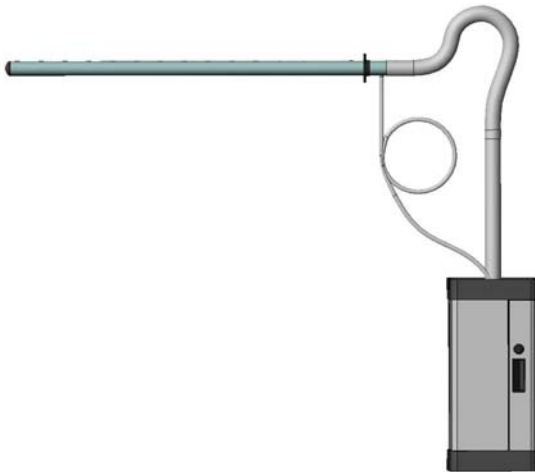
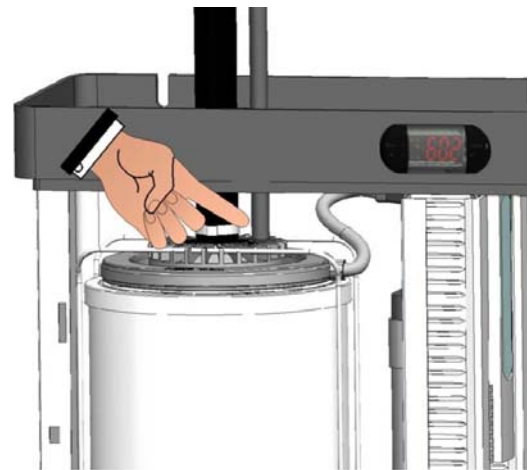

Fig.44
Fig. 45
2. If the distributor is positioned higher than the humidifier and the steam tube generates a siphon (e.g. Fig. 44), the condensate recovery must be installed, directly discharging in appropriate cylinder sleeve of the humidifier (Fig. 45) or in a water collection well. The condensate recovery is made connecting the 10 mm sleeve of the distributor to the PEGO UMITUBODN10 tube for this type of application. In the path of the condensate recovery tube from distributor to humidifier or from distributor to well, a siphon must be made with full turn of 200 mm minimum diameter; the siphon must be charged with water prior to installation. This will prevent steam exiting the condensate recovery tube (Fig. 44).